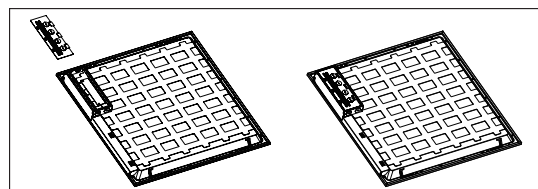

Fig. 4
- (4). Install the cover on the j-box accessory. (Fig. 4)